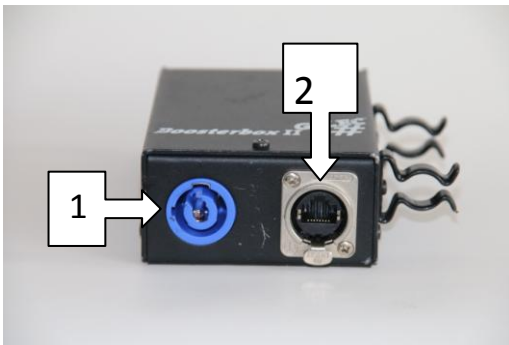

Fig. 4
3. Connect the Booster Box using an Ethernet cable to the GVP Ethernet port **FRAME** (see Fig. 4). Please note that the Ethernet port **WWW** on the GVP is primed for future functions and does not output a video signal to the LED-modules.